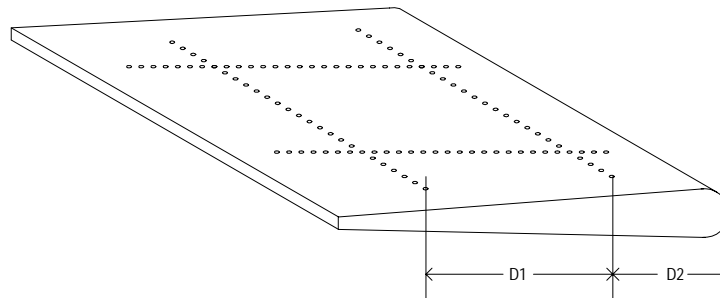

Figure 3-5. Distance between leading edge and rivet lines.
- 3.8 After finding a location with little or no interference, the CA-320C Wing Mount is assembled to match as closely as possible the ribs and stringers in the wing. Measure the distance from the leading edge of the wing to the first line of rivets or other indication of internal support and the distance from the leading edge to a second line of rivets or indication of internal support. See Figure 3-5 below: